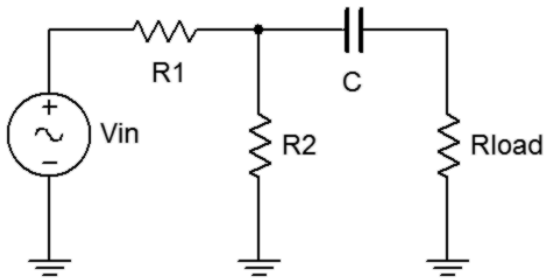

Figure 11.1
- For the circuit of figure 11.1, calculate the voltage across the 1 k $\Omega$  load using  $R_1=1.5$  k $\Omega$ ,  $R_2=2.2$  k $\Omega$ , and  $C=470$  nF, with a 2 V p-p 1 kHz source. Record this value in Table 11.1. Also calculate the expected Thevenin voltage and Thevenin impedance. Record these values in Table 11.2.
- Build the circuit of figure 11.1 using  $R_1=1.5$  k $\Omega$ ,  $R_2=2.2$  k $\Omega$ ,  $R_{load}=1$  k $\Omega$  and  $C=470$  nF. Set the generator to a 1 kHz sine wave at 2 V p-p. Make sure that the *Bandwidth Limit* of the oscilloscope is engaged. This will reduce the signal noise and make for more accurate readings. Measure the load voltage and record in Table 11.1 as  $V_{load}$  Original.